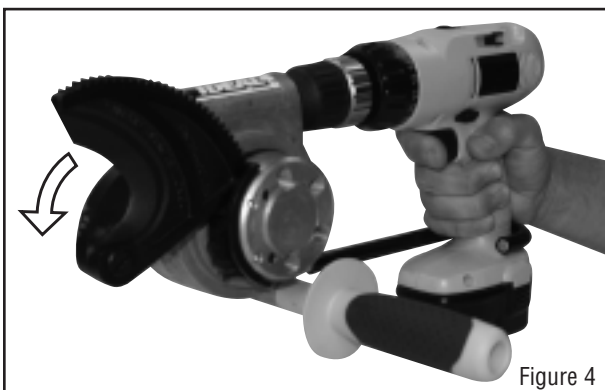

Figure 4
**STEP 4:** Activate the drill trigger switch to open the moving blade (Figure 4).